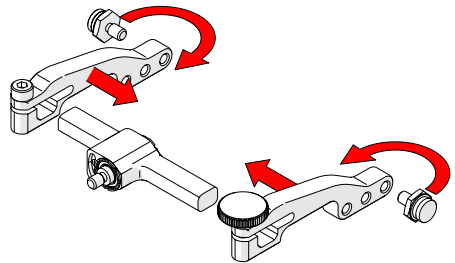

Fig. 170 - Attach arms and move buttons
4. Place the pivot buttons on the inside of the probe holder arms (Fig. 170) using a 3/8 in wrench (Fig. 45). Slide the arms onto the yoke and tighten the probe holder arm adjustment knob and the arm clamp screw.